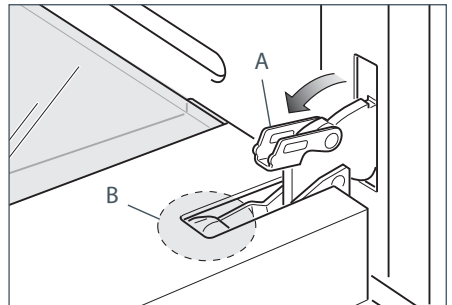
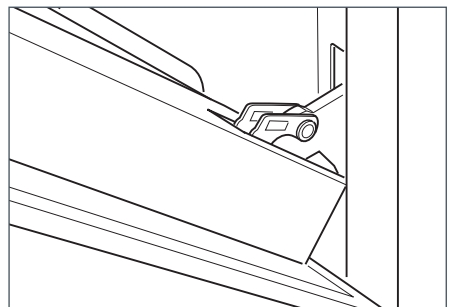

Fig.44b
Fig.44c
- Fully open the lever "A" on the left and right hinges (Fig. 44b).
- Gently close the door (Fig. 44c) until the left and right hinges are hooked to part "B" of the door (Fig. 44b).